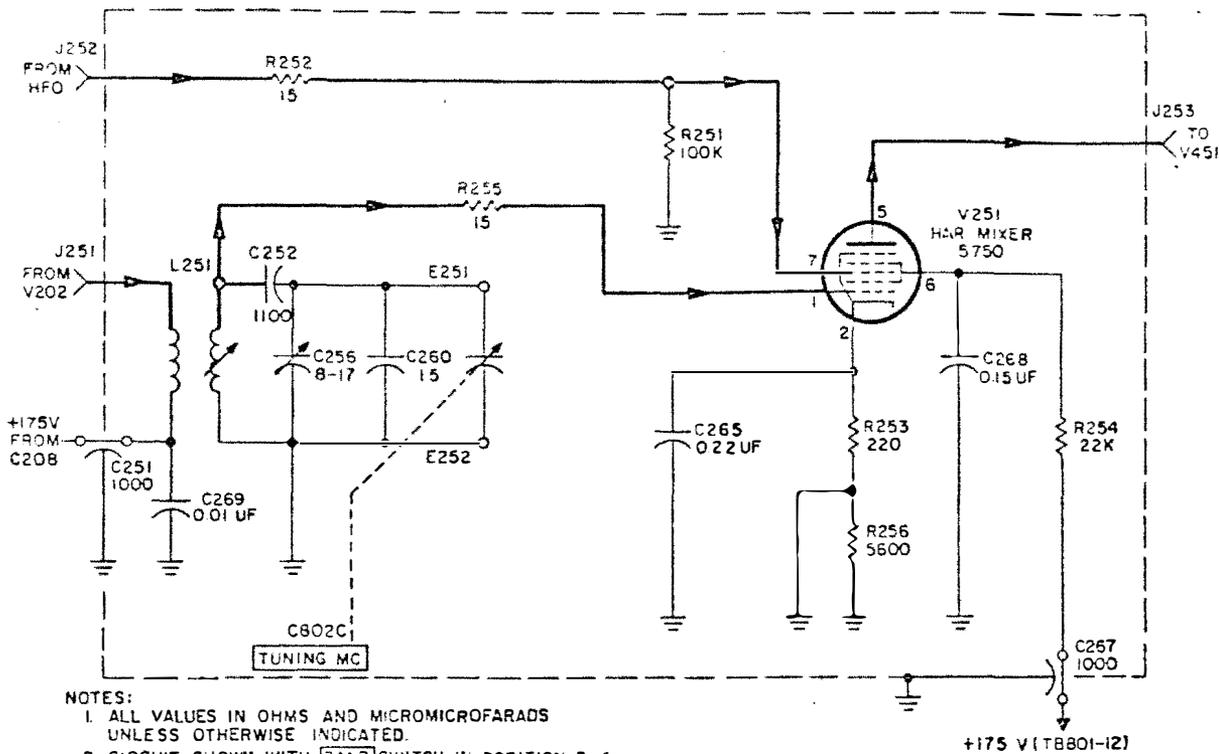

Figure 4-21. Harmonic Mixer, Simplified Schematic Diagram
(13) HARMONIC MIXER. (See figure 4-21.) - The harmonic mixer consists of harmonic mixer V251 and a resonant circuit comprising coil L251 tuned by variable capacitor C802C. The harmonic mixer covers the frequency range of 2.9 mc to 32.9 mc in four bands; figure 4-21 shows only the components for band 1 operation. Variable capacitor section C802C is jointly tuned with sections C802A and C802B in the harmonic amplifier. The harmonic mixer (V251) combines a signal from the high-frequency oscillator at connector J252, with 100-kc harmonic selected by the harmonic amplifier. The primary of coil L251 is the plate load for harmonic amplifier V202 in the preceding circuit-section, and the selected 100-kc harmonic is applied to the signal grid of V251. The mixer plate load is a resonant circuit formed by coil L455 and capacitor C457 in the injection amplifier circuit (see figure 4-11). Refer to paragraph 4-1e for a description of receiver tuning related to operation of the harmonic mixer.